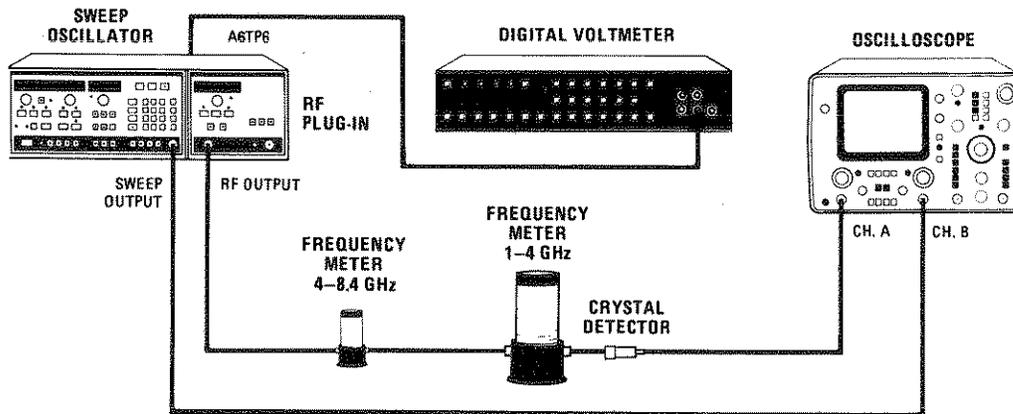

Figure 5-13. Test Setup for Delay Compensation Adjustment
1. Connect equipment as shown in Figure 5-13. At oscilloscope, select A vs. B sweep mode to obtain a CRT trace of amplitude versus frequency.